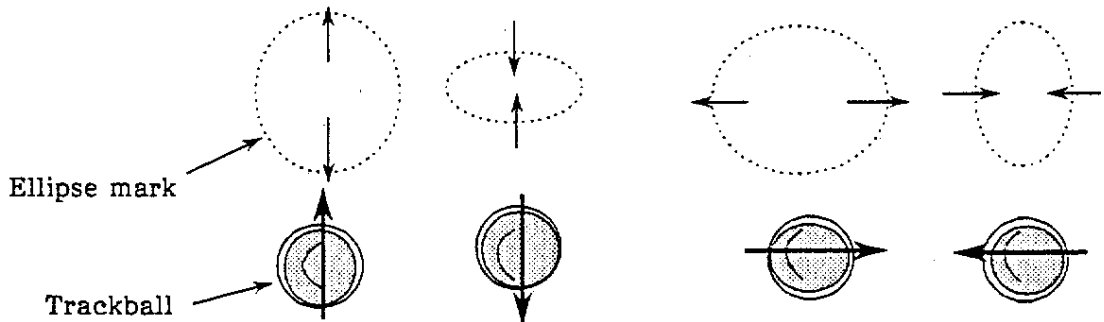

Fig. 2-2-3
- c. Press the MARK REF switch. The TRACKBALL works to lengthen or shorten the long and short axes of the mark. (See Fig. 2-2-3.)